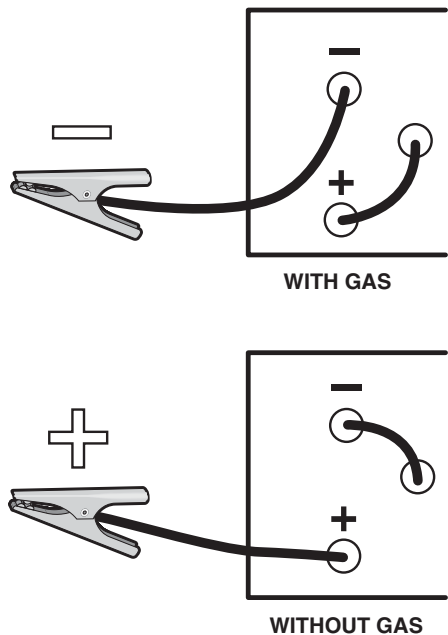

Figure 7. Welder Polarity Selections
- Reconnect according to Figure 7.